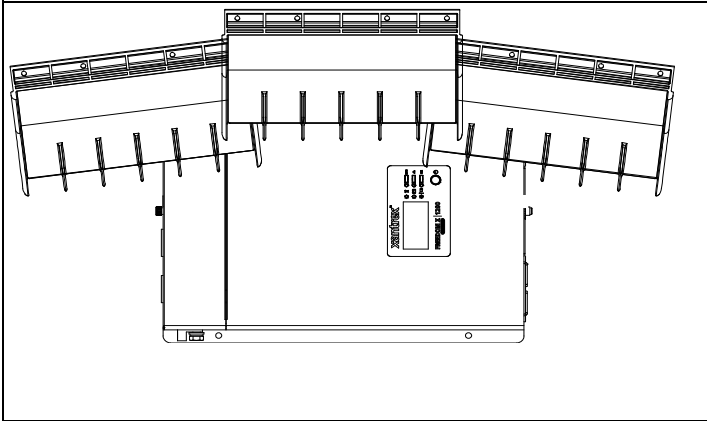

Figure 9 Typical Drip Shield Placement on a Freedom X 1000
2. Locate an appropriate setting for the drip shields above the Freedom X making sure you cover the entire width of the unit. You can overlay the shields as shown in Figure 9 below.